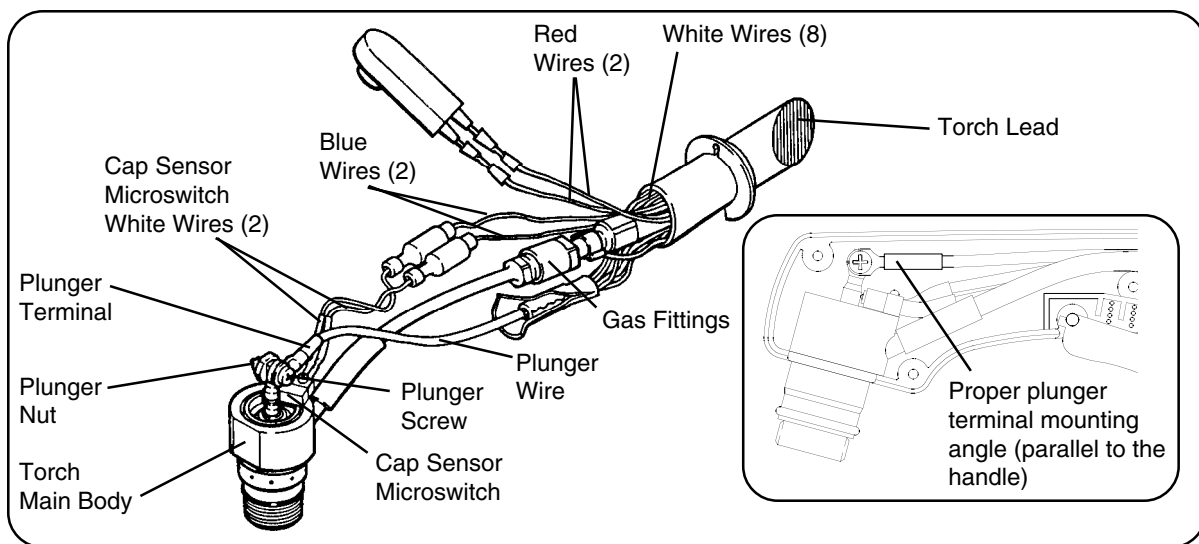

Figure 3-17 PAC125T Torch Main Body Removal
To remove and replace the torch main body, order the torch main body with cap-on sensor switch and refer to the following procedure and Figures 3-17 and 3-18.
3. Disconnect the two lead terminals (blue wire in each terminal) from the two wires of the cap sensor microswitch (Fig. 3-17).
4. Disconnect the plunger wire from the torch main body by holding the plunger nut with a 1/4" (6 mm) wrench or nut driver and removing the plunger screw (Fig. 3-17).
6. Replace the new torch main body by reversing these instructions. Note: When connecting the plunger wire, be certain to keep the plunger wire terminal at the proper angle as shown in the Fig. 3-17 inset. Tighten the plunger screw with 8 lb-in (9 kg-cm) of torque.